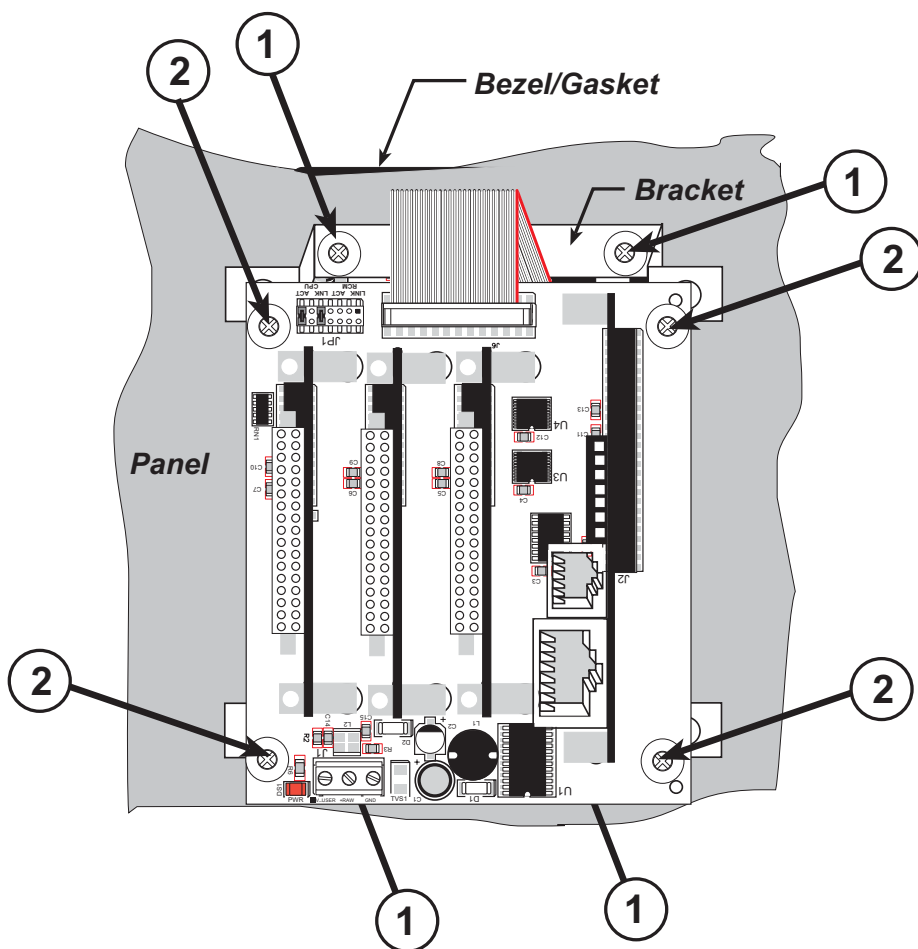

Figure B-10. Install Smart Star Backplane Behind LCD/Keypad Module
2. Use brackets to secure the LCD/keypad module to the panel using the four 4-40 screws and washers included with the LCD/keypad module. The four screw positions are indicated with the number 1 in Figure B-10. If your panel is thick, use a 4-40 screw that is approximately 3/16" (5 mm) longer than the thickness of the panel.
3. Use a ribbon cable to connect header J6 on the backplane to header J1 on the LCD/keypad module. Note the pin 1 positions reflected by the red-colored line in the ribbon cable shown in Figure B-10.
4. Secure the Smart Star backplane using four 4-40 \times 1/2" or 6-32 \times 1/2" screws at the screw positions indicated with the number 2 in Figure B-10.